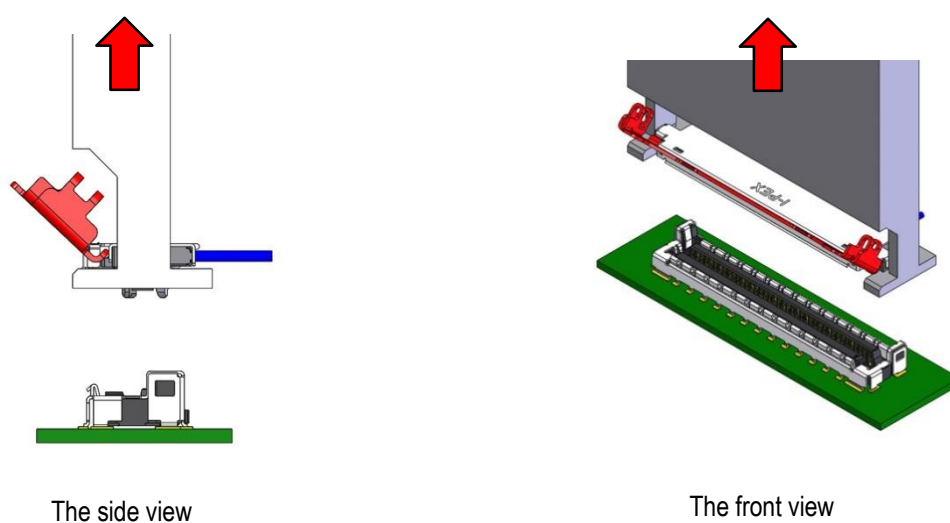

Fig.18
- ⑤ Lift up the jig vertically to the PCB surface.(see Fig.18)